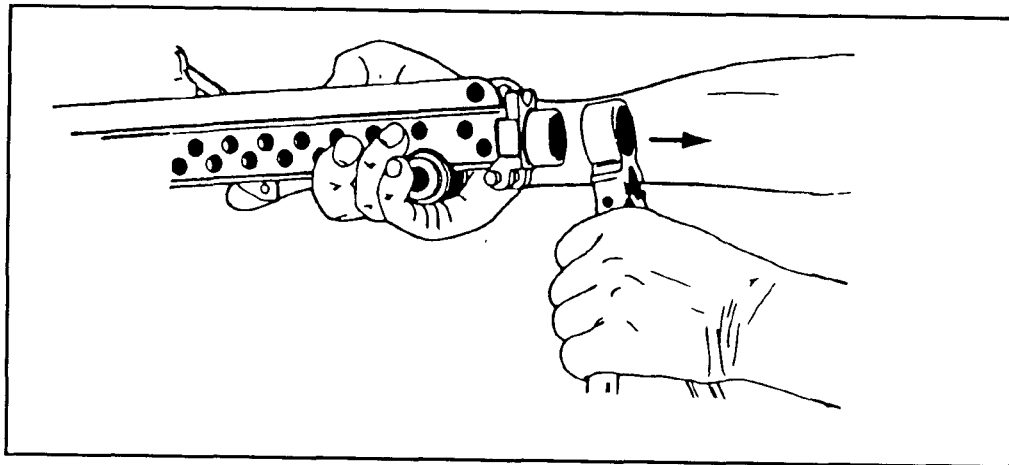

Figure 2-11. Removing the bipod group.
g. **Removing the Bipod Group.** Once the gas cylinder is removed, remove the bipod group (Figure 2-11) by pulling it away from the receiver.
a. **Replacing the Receiver Group and Bipod Group.** Place the bipod group on the receiver group with the bipod legs open and pointed downward. (See Figure 2-11.)